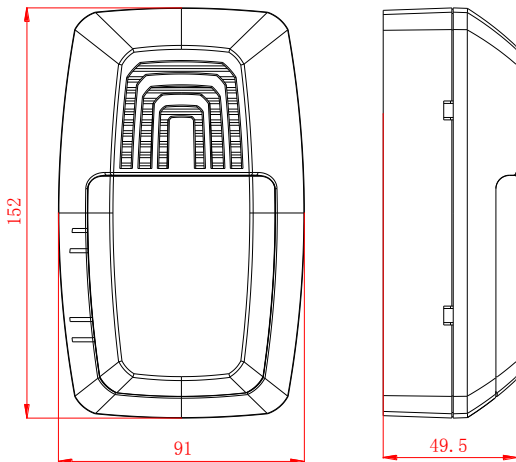

Fig. 1
- ✧ If the sounder strobe is required to be tamper-proof, knock down the arch knockout as shown in Fig. 1 and fix it with ST2.9×6.5 self-tapping screws (in this case, it can only be removed by a cross screwdriver).